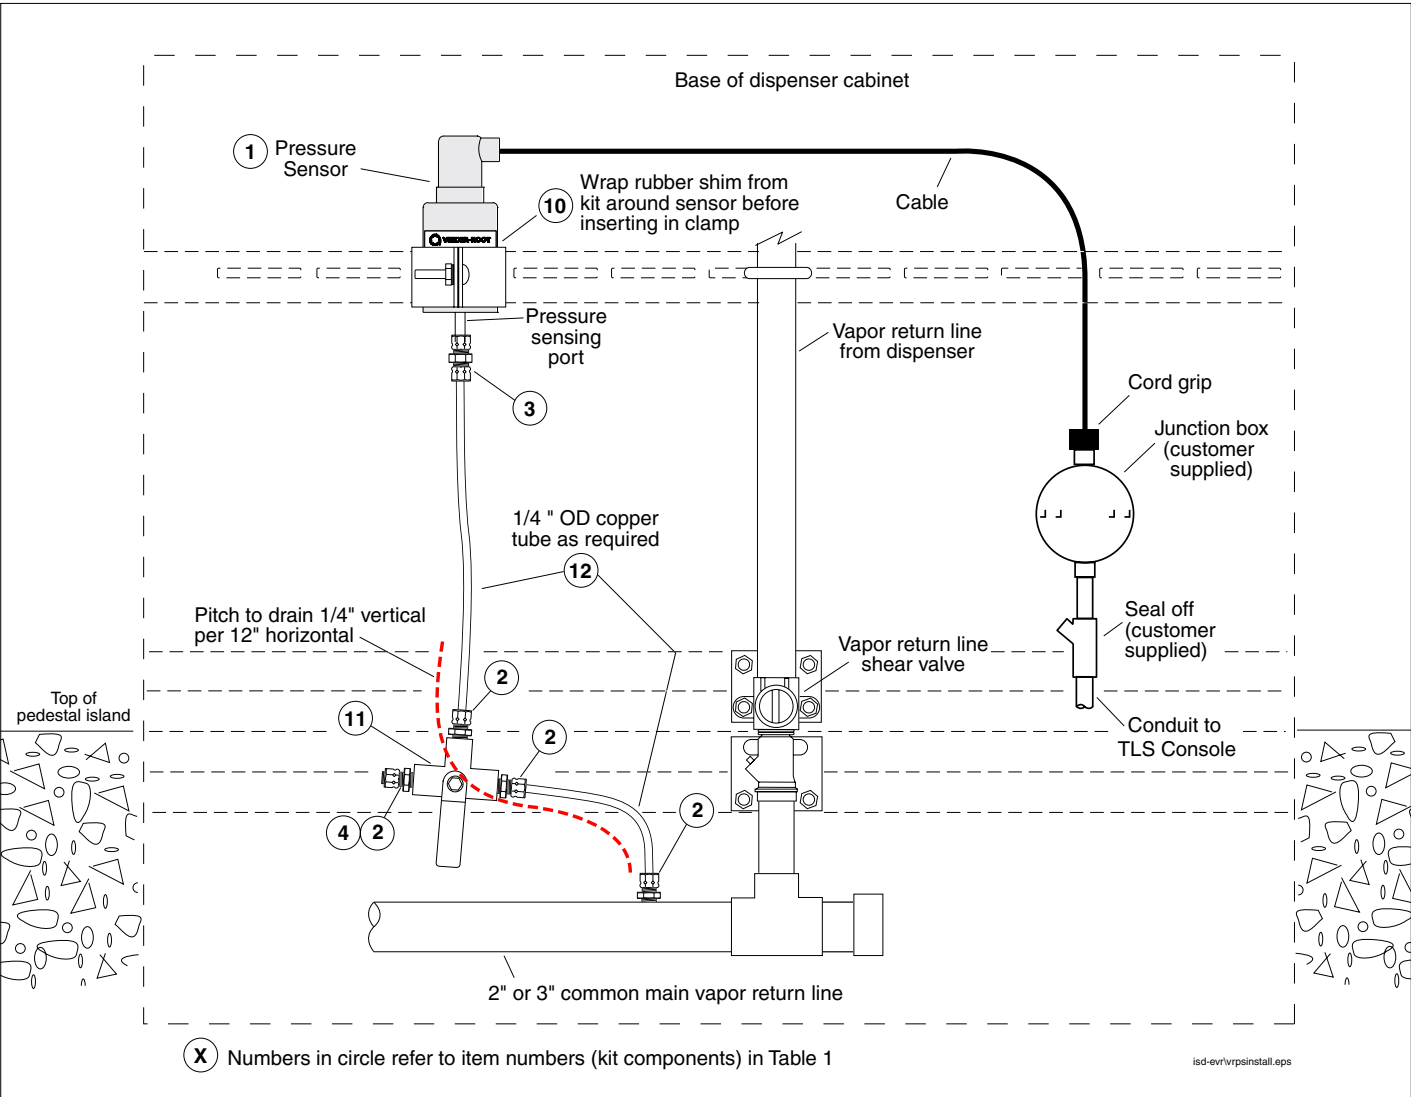

Figure 1. Example Pressure Sensor Installation
- a. The main vapor return line (see Figure 1) - this is the preferred position,
4. Install one of the 68CA-4-4 male connectors (item 2 in Table 1) from the kit into the tapped hole.
5. Install Pressure Sensor (item 1 in Table 1) vertically to the dispenser frame or piping using the 2-inch conduit clamp, rubber shim, and necessary bolts, nuts, and washers from the included Universal Sensor Mounting kit. Wrap the rubber shim (item 10 in Table 1) around the sensor before inserting it into the clamp. Also make sure the sensor cable outlet is facing up and the pressure sensing port tube in the base of the sensor is facing down.
6. Attach one end of the 62CA-4 union (item 3 in Table 1) to the pressure sensing port in the base of the Pressure Sensor.
7. Install the remaining 68CA-4-4 male connectors (item 2 in Table 1) from the kit into each of the three ports in the 3-way calibration valve (item 13 in Table 1).
8. Measure, fabricate, and install a 1/4" OD copper tube (item 12 in Table 1) that runs between the 62CA-4 union in the base of the sensor and the center port of the 3-way calibration valve.
10. Screw the 59CA-4 plug, item 4, from the kit onto the last port's male connector. Make sure the valve's handle is set to connect the sensor to the vapor return line and not to the capped (ambient) port.